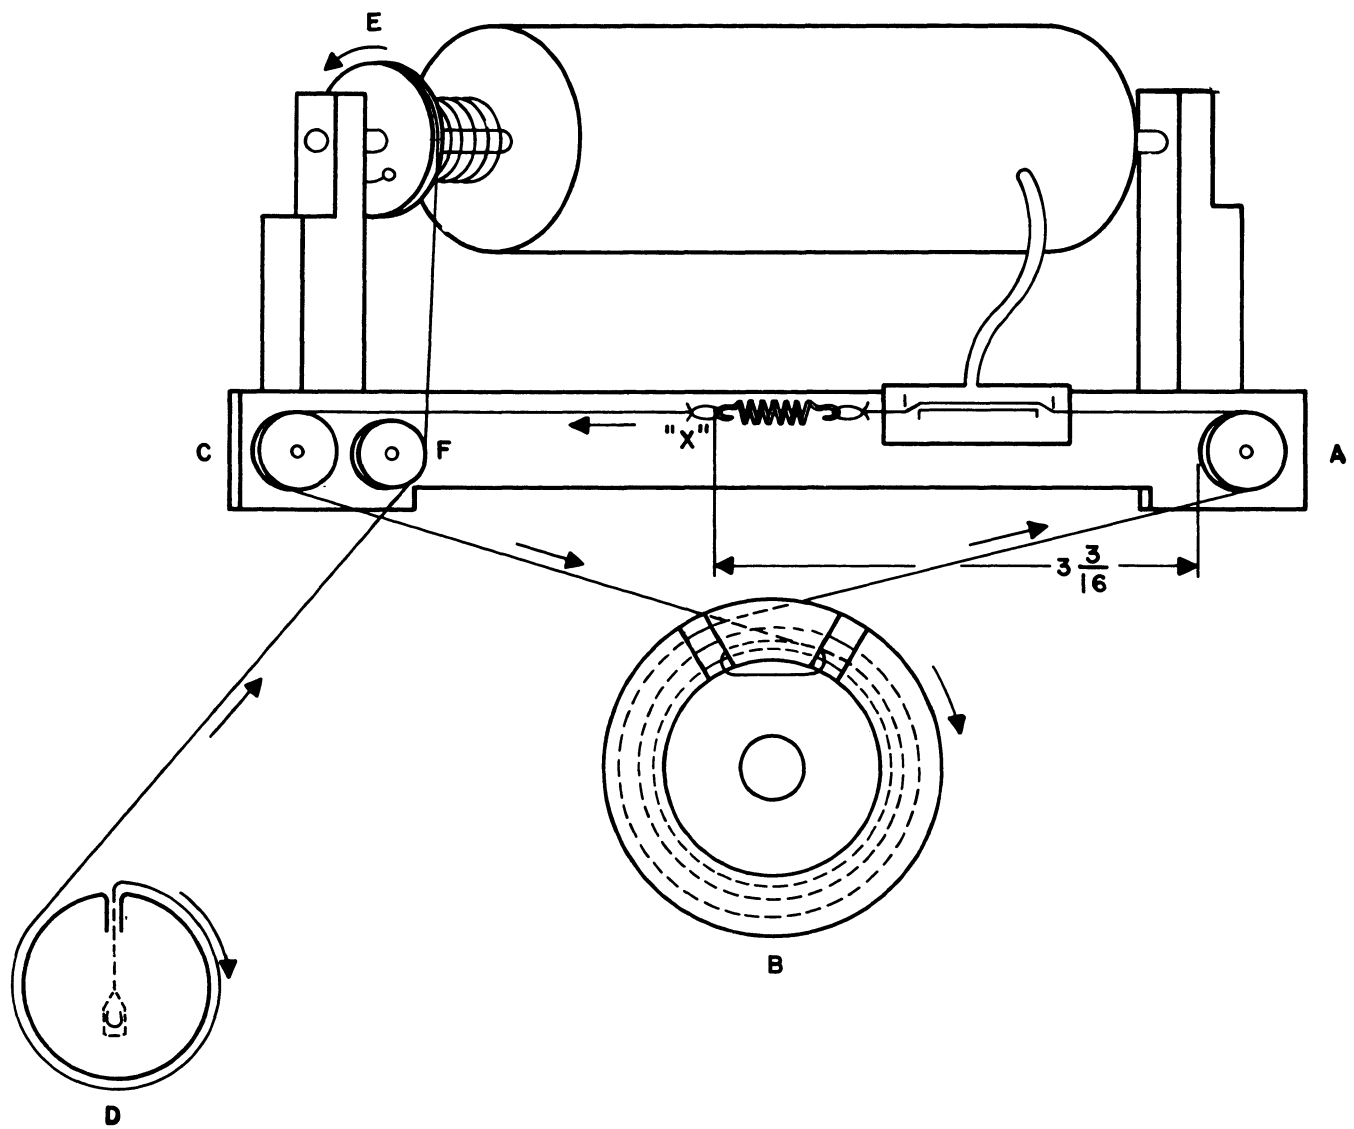

Figure 5-2. Dial Cord Replacement
a. GENERAL. Two dial cords are used in this equipment - one for the MEGACYCLES dial drum and one for the MEGACYCLES dial pointer. Refer to figure 5-2. In either case the front panel must be removed to gain access to the dial cords.
(1) Remove the following knobs: BAND CHANGE, KILOCYCLES tuning, PA TUNING, PA LOADING and SIDEBAND SELECT.
(2) Remove six panel screws (three on each side).
(3) Pull the panel forward and off the extended control shafts. Allow it to tip forward - being careful to prevent breakage of connecting wires.
c. POINTER CORD. (See figures 5-2 and 6-3.)
(1) Obtain a type 432 1018 00 Collins dial cord. This cord is cut to correct length and has securing loops already tied in the ends (as does the drum cord).
(2) Scribe a mark on the KILOCYCLES tuning shaft and the dial hub to mark their relative positions and remove the KILOCYCLES dial.
(3) See figure 5-2. Turn the KILOCYCLES tuning shaft to the clockwise stop.
(4) Start at point X in the drawing with the cord hooked to one end of the spring (Collins Part Number of this spring is 503 1240 001).
(5) Bring cord around pulley C to pulley B.
(6) Wrap around pulley B clockwise, through the deep slot, around the tab, and back through the shallow slot. Wrap around pulley B two times clockwise.
(7) Wrap cord around pulley A and loop the end on the free end of the spring.
(8) Fasten the pointer to the cord.
(9) Replace the KILOCYCLES dial and match the scribe marks (added in step (2)) and tighten the setscrews.
(10) Back the KILOCYCLES dial to where O is straight up.
(11) Slide the pointer to the first major mark at the right-hand edge of the drum.
(12) Check by turning the KILOCYCLES dial shaft through its entire range.
(13) Replace panel - be sure KILOCYCLES dial plate is in the correct position on its shaft so that there is no binding and so that the DIAL DRAG works correctly.
(14) Replace the knobs.
d. DRUM CORD. (See figures 5-2 and 6-3).
(1) Obtain a Collins Type 532 1020 00 dial cord.
(2) Turn the BAND CHANGE to the 3-4 mc band (80 meter).
(3) Turn pulley E approximately one turn and hold tension spring taut. (The front panel must have been removed as in paragraph b. above).
(4) Make approximately 3/4 turn around pulley D and hook cord to tab.
(5) Extend the cord around the inside of the idler pulley F and go around pulley E to the tab and hook the cord to it. Release the tension spring.
(6) Replace the panel and knobs.
(7) Loosen the setscrew in the drum hub opposite the coil tension spring and align the drum calibration to the 80-meter band then tighten the setscrew.